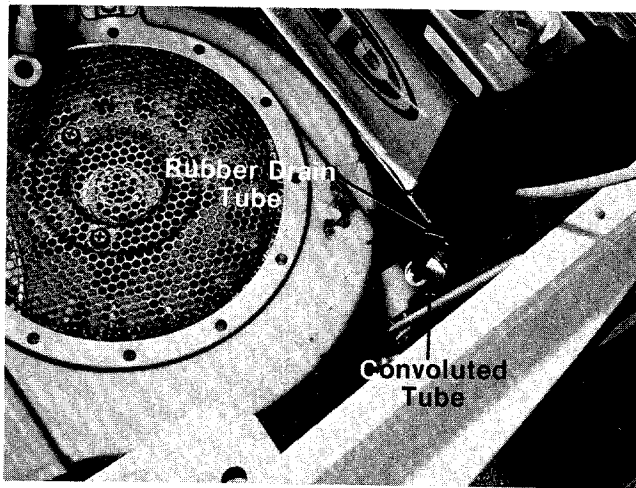

FIGURE 6.
- ← 2. Place the battery into the lawn tractor, so that the negative (–) terminal on battery is to the left hand side. See figure 6.
3. Place the end of rubber drain tube (on battery) into the fixed convoluted tube on lawn tractor. See figure 6. Reference to illustration on bottom of page 32 may also help.